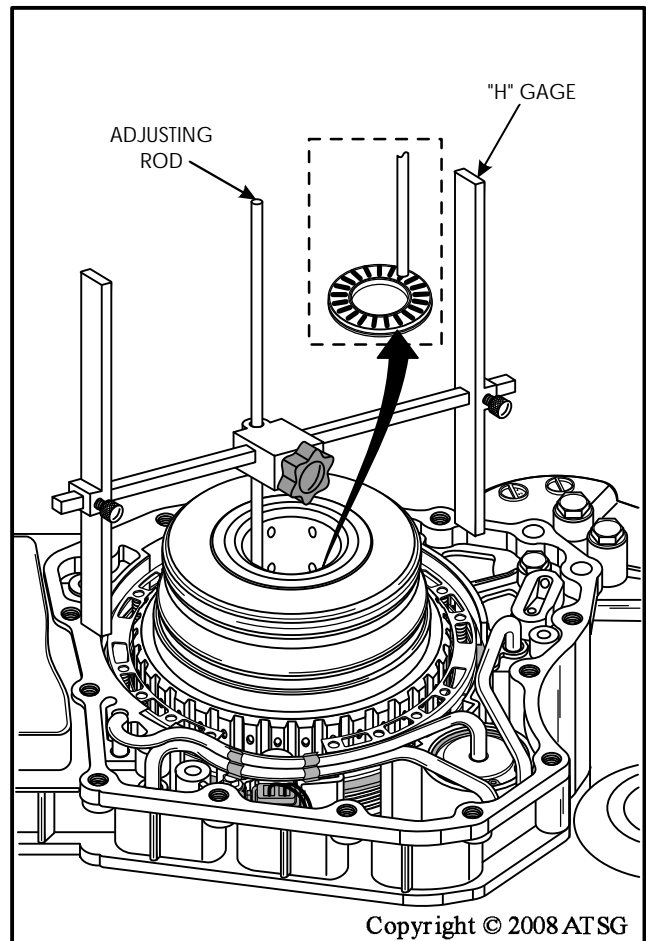

Figure 208
40. Install the "H" Gage on transaxle, as shown in Figure 208, and lower adjusting rod into high and reverse clutch housing so that it is setting on one needle (See Inset Figure 208)